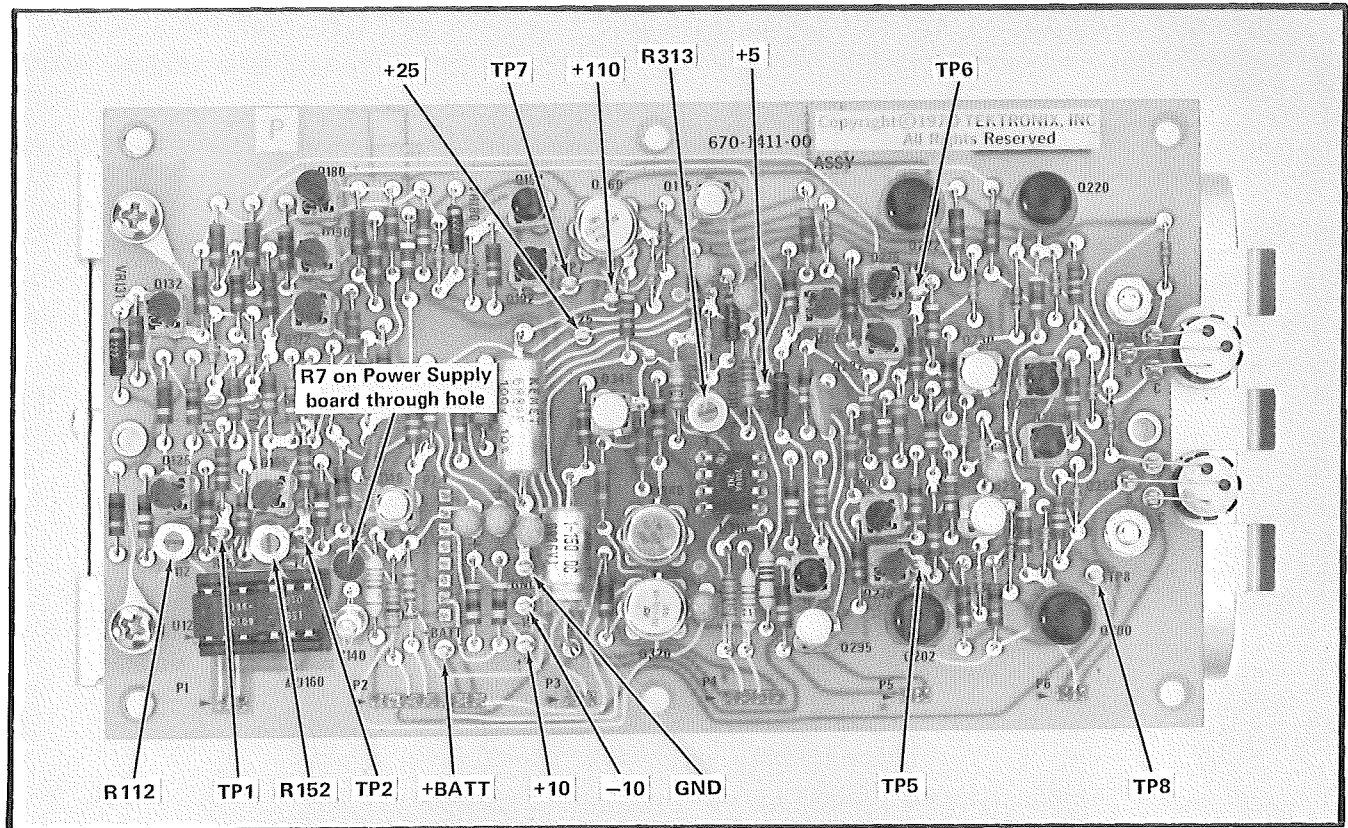

Fig. 5-3. Location of controls and test points.
a. Monitor TP+110 (see Fig. 5-3 for location) using a Differential Comparator or DVM.
a. Monitor TP+5 (see Fig. 5-3 for location) using a Differential Comparator or DVM.
b. Set the 2620 Trig Sens controls (internal adjustments; see Fig. 5-3) fully clockwise.
- b. Monitor TP1 (see Fig. 5-3 for location) with Test Oscilloscope and 10X probe.